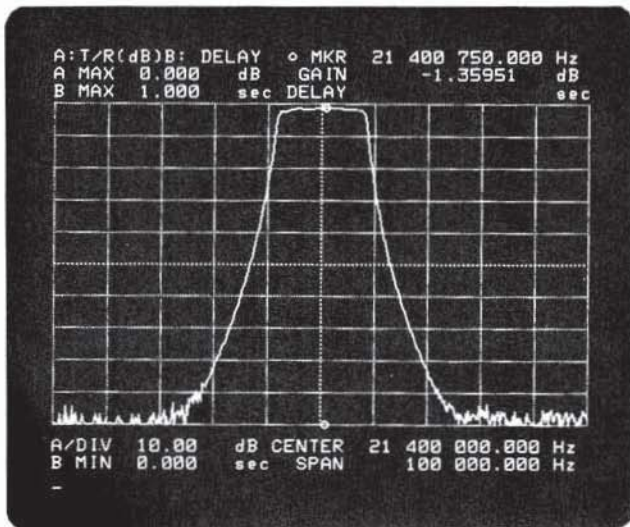

Figure 21. Insertion Loss Measurement
Press the MKR/LCURS, menu, and MKR → MAX(A) keys, then the marker indicates an insertion loss value of 1.360dB. (See Figure 21.)